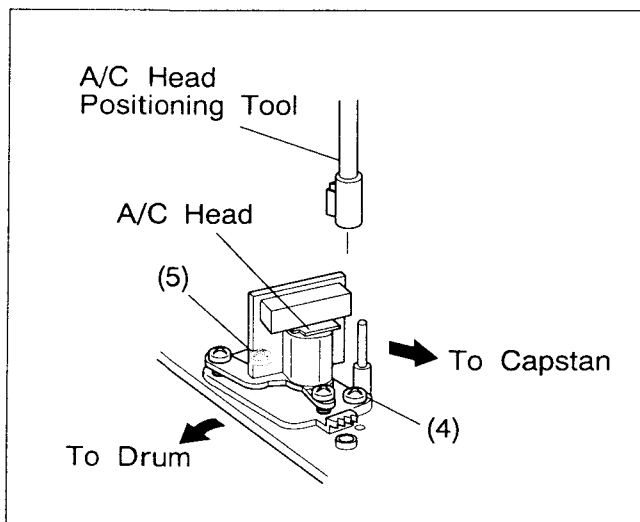

Fig. 2-7-6
- (1) Connect the oscilloscope to TP106(PB FM) on the PRE/REC board. Use TP111(D.FF) on the PRE/REC board as a trigger.
- (2) Playback the SP stairstep portion of the alignment tape [MHPE].
- (3) Set the neutral manual tracking position by pressing the **///** button on the remote controller or TV PROG "-" and "+" buttons simultaneously.
- (4) If adjustment is required, slightly loosen screws (4) and (5). Set A/C head positioning tool on the A/C head adjusting boss as indicated in Fig. 2-7-6.